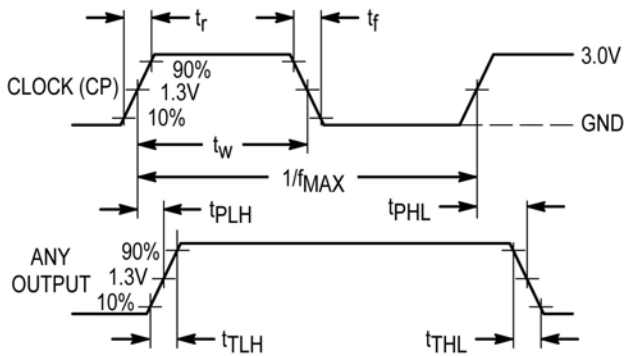

Figure 1 – Propagation Delay & Clock Timing, Clock to Output
The count is either enabled or disabled by the control inputs according to Figure 1. In general, P Enable (PE) is a count-enable control: T Enable (TE) is both a count-enable and a Ripple-Carry Output control.